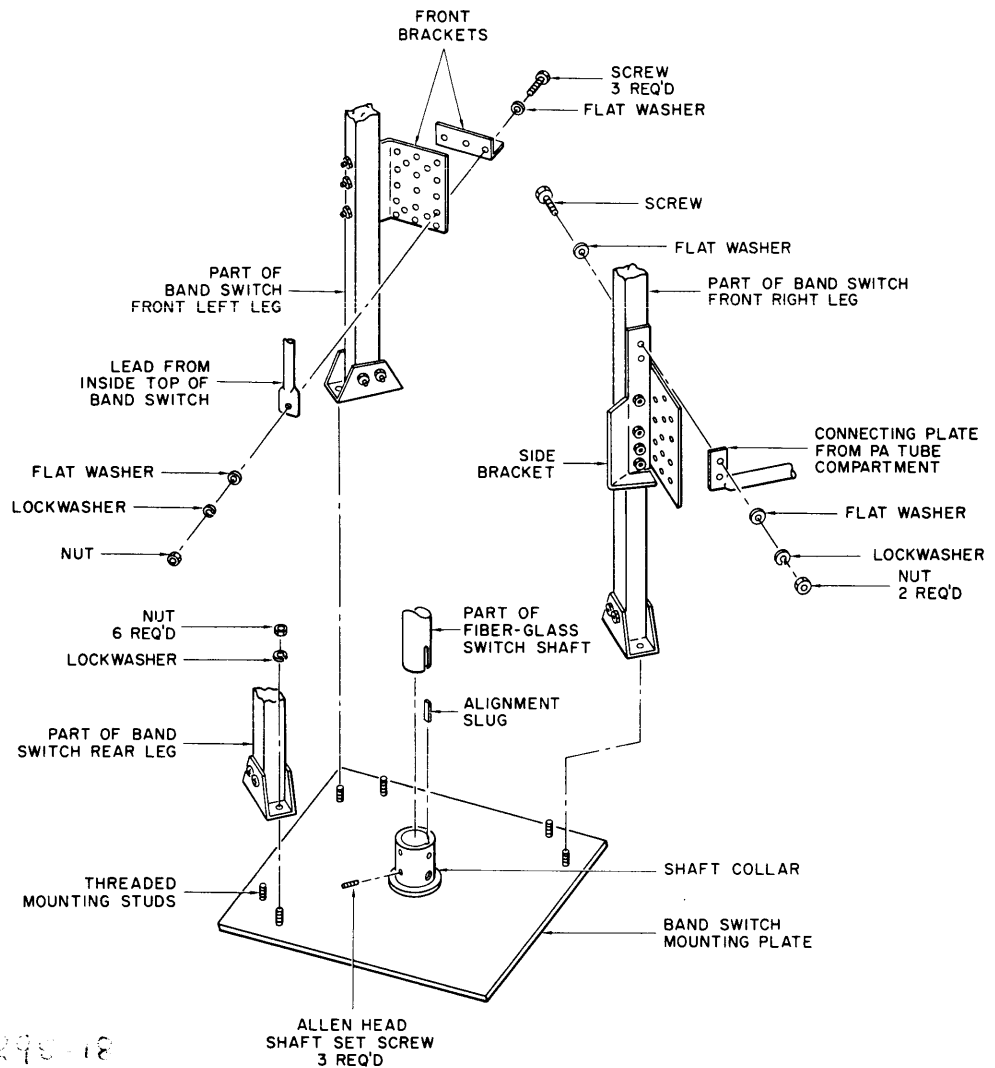

Figure 2-17. Third Frame Band Switch, Installation Diagram.
- b. Back out three allen head shaft set screws, figure 2-17, in shaft on band switch mounting plate in rear of fourth frame.
c. Temporarily remove three bolts from front bracket, figure 2-17, which is attached to front left leg of band switch.
d. Temporarily remove two bolts, figure 2-17, from top of side bracket on front right leg of band switch.
f. Using hardware previously removed, secure band switch to mounting plate (see figure 2-17).
i. Replace three bolts that attach front brackets, figure 2-17 include lead from inside top of band switch in hardware sequence.
j. Connect coil L7316 (taped to top of band switch during shipment of transmitter) to porcelain insulator on top of band-switch and to flange-clamp (electrically connected to capacitor C7325, see figures 2-17 and 2-18).